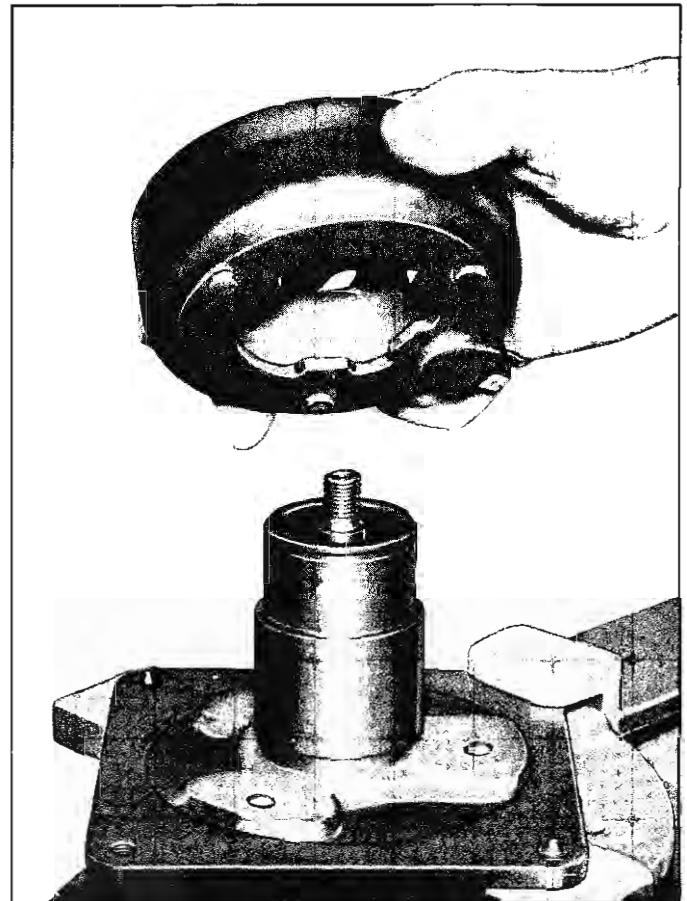

Fig. 20—Installing Coil Housing
1. Rotate the coil housing to the correct position as indicated by the scribe marks and the location of the electrical terminals and fit into place. (fig. 20).